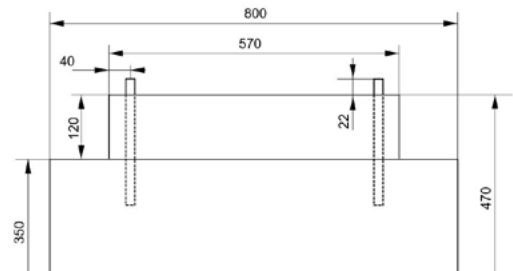
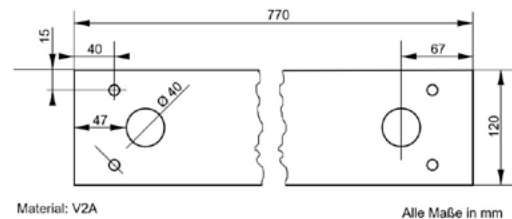
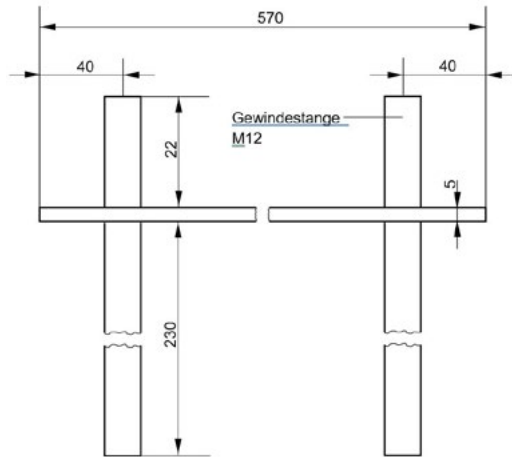

Figure 4: Prefabricated foundation - side view
Figure 5: Prefabricated foundation - top view
Figure 6: Foundation plate - side view
In the simplest case, use our prefabricated foundation. This significantly simplifies the mounting of the charging column. In this prefabricated foundation an empty pipe and the foundation plate with four threaded rods are already cast. The shape of the prefabricated foundation may differ from the shape in Figure 4 and Figure 5. The shape and dimensions of the foundation plate, which can be seen in Figure 6, are relevant.
4. Position and fix the empty conduit in the correct place. The distances between the empty conduits are shown in figure 6: Foundation plate - top view.